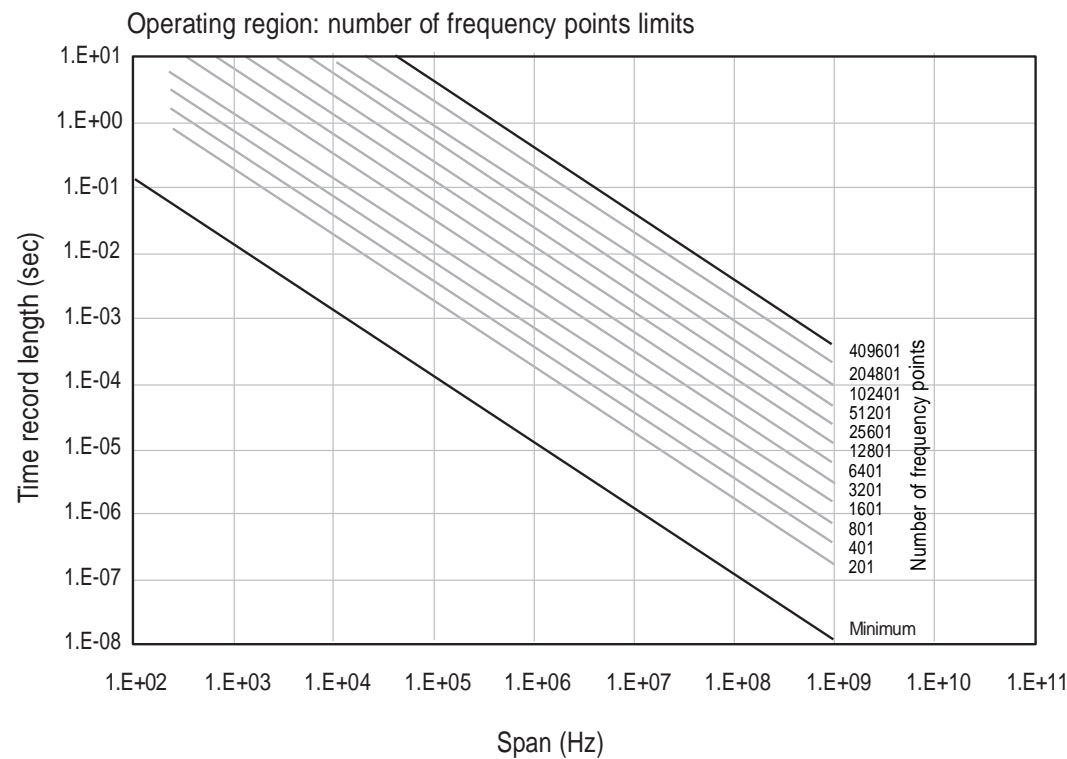

Figure 3. The user-settable parameter, frequency points, begins to determine the boundaries of the time record length and frequency span operating region.
The operating region is described in terms of span and time record length. For a given window type it could just as easily be described in terms of span and RBW. Figure 3 shows the effects of the number of time points the 89600 VSA software is allowed to collect. Because sample spacing is inversely proportional to span, the record length decreases as span increases. Although a family of lines is shown, only two define the operating region at any one time. The lowest line gives the smallest time record length allowed for any given span. The position of this line is determined by minimum number of time points (16) the 89600 requires in a time record. The line that defines the upper time record length boundary is positioned by the maximum number of time points the 89600 allows in a time record. The maximum number of time points is determined by the Frequency Points setting (**MeasSetup > ResBW > Frequency Points**). The 89600 VSA is constrained to operate in the region between these two lines. Note that the operating lines of Figure 3 are the same for all InfiniiVision Series models.